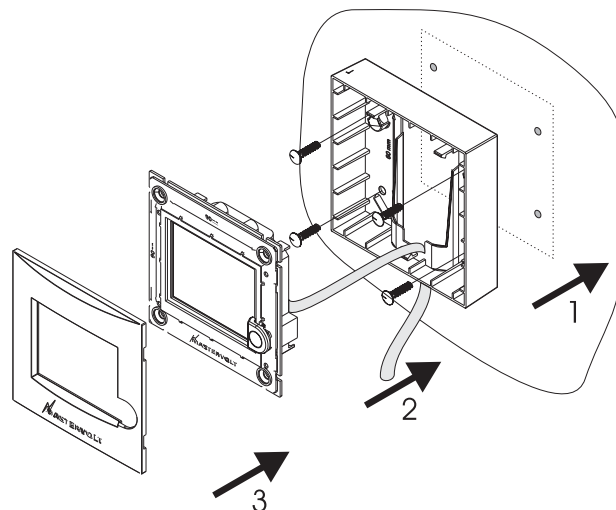

Figure 18
- Panel mounting (see figure 18):
- Drill the holes using the dimensions at the back of the front plate and fasten the outer housing (1).
- Click the panel into the outer housing (2).
- Reattach the front (3)